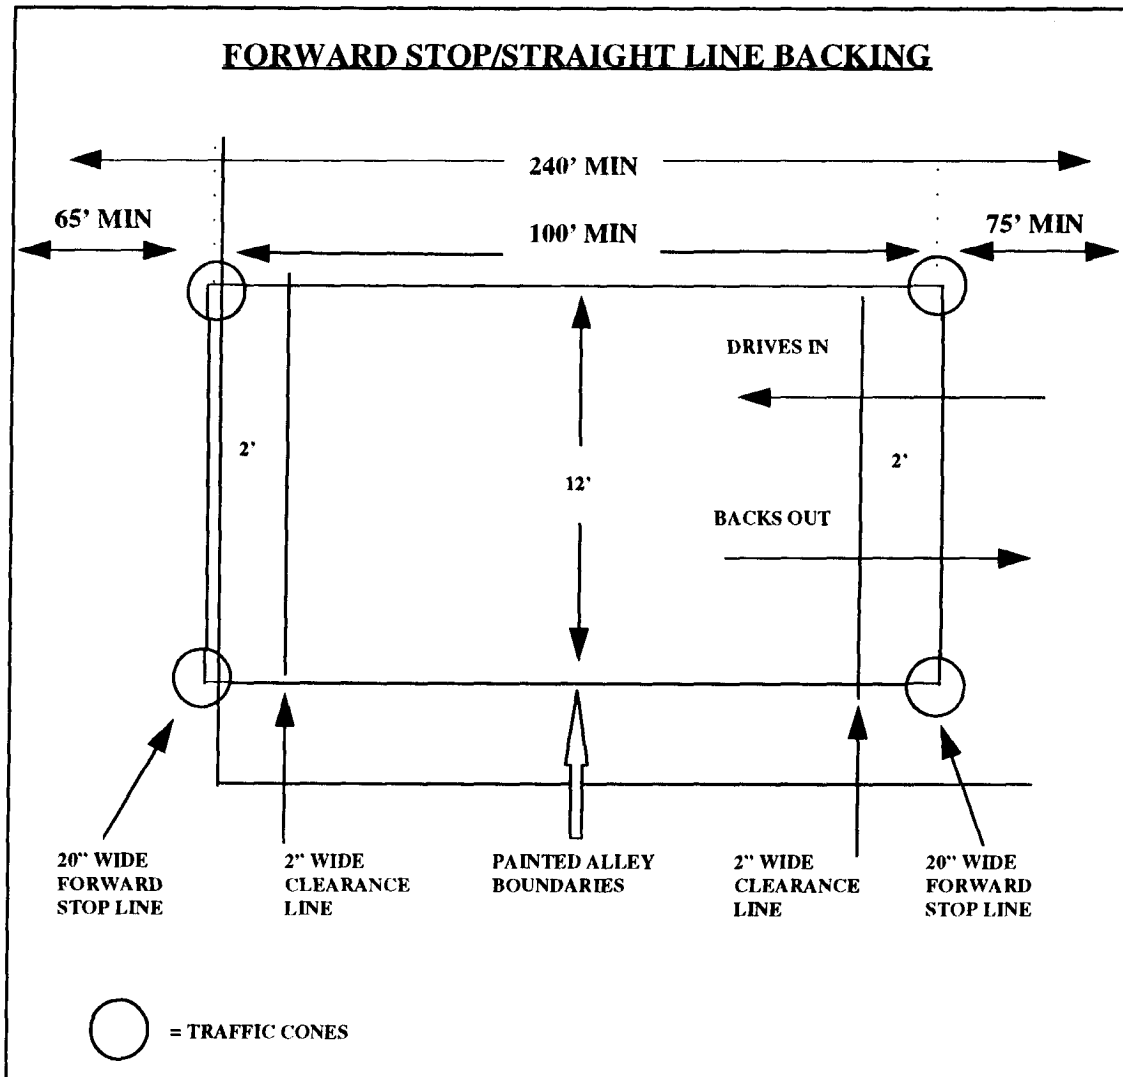
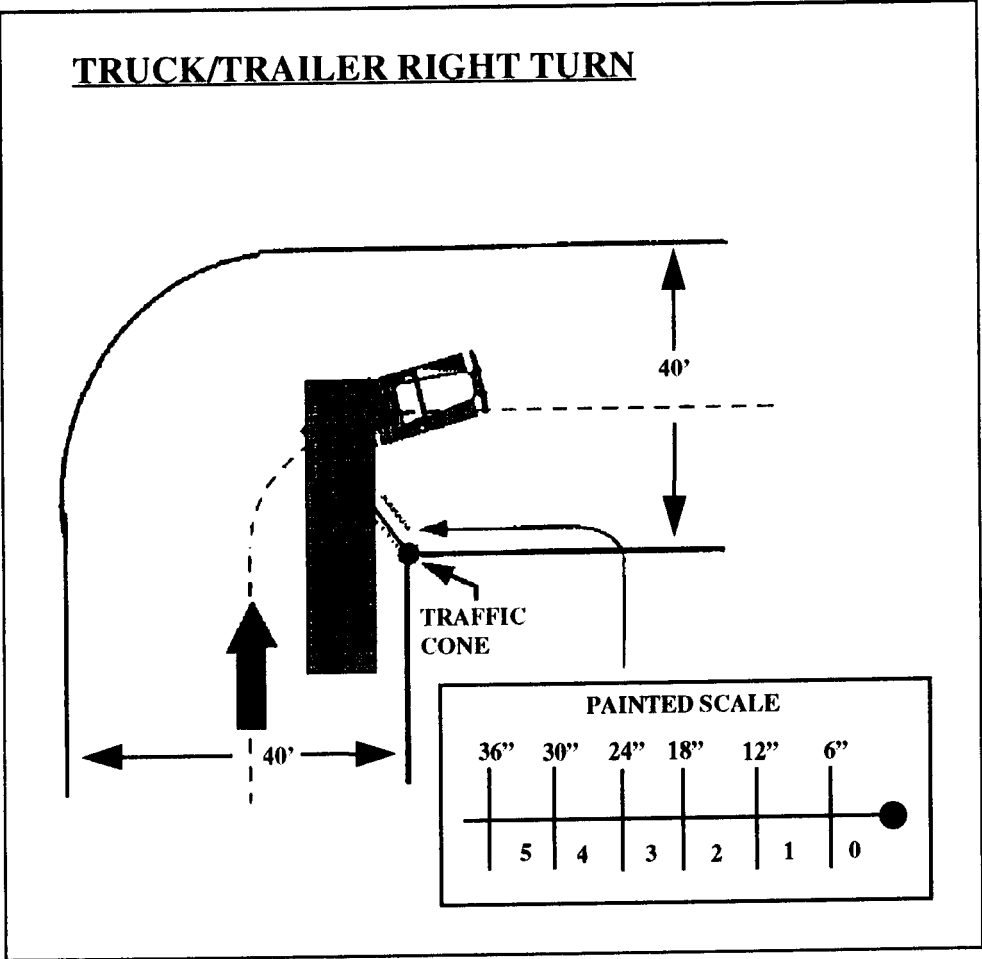
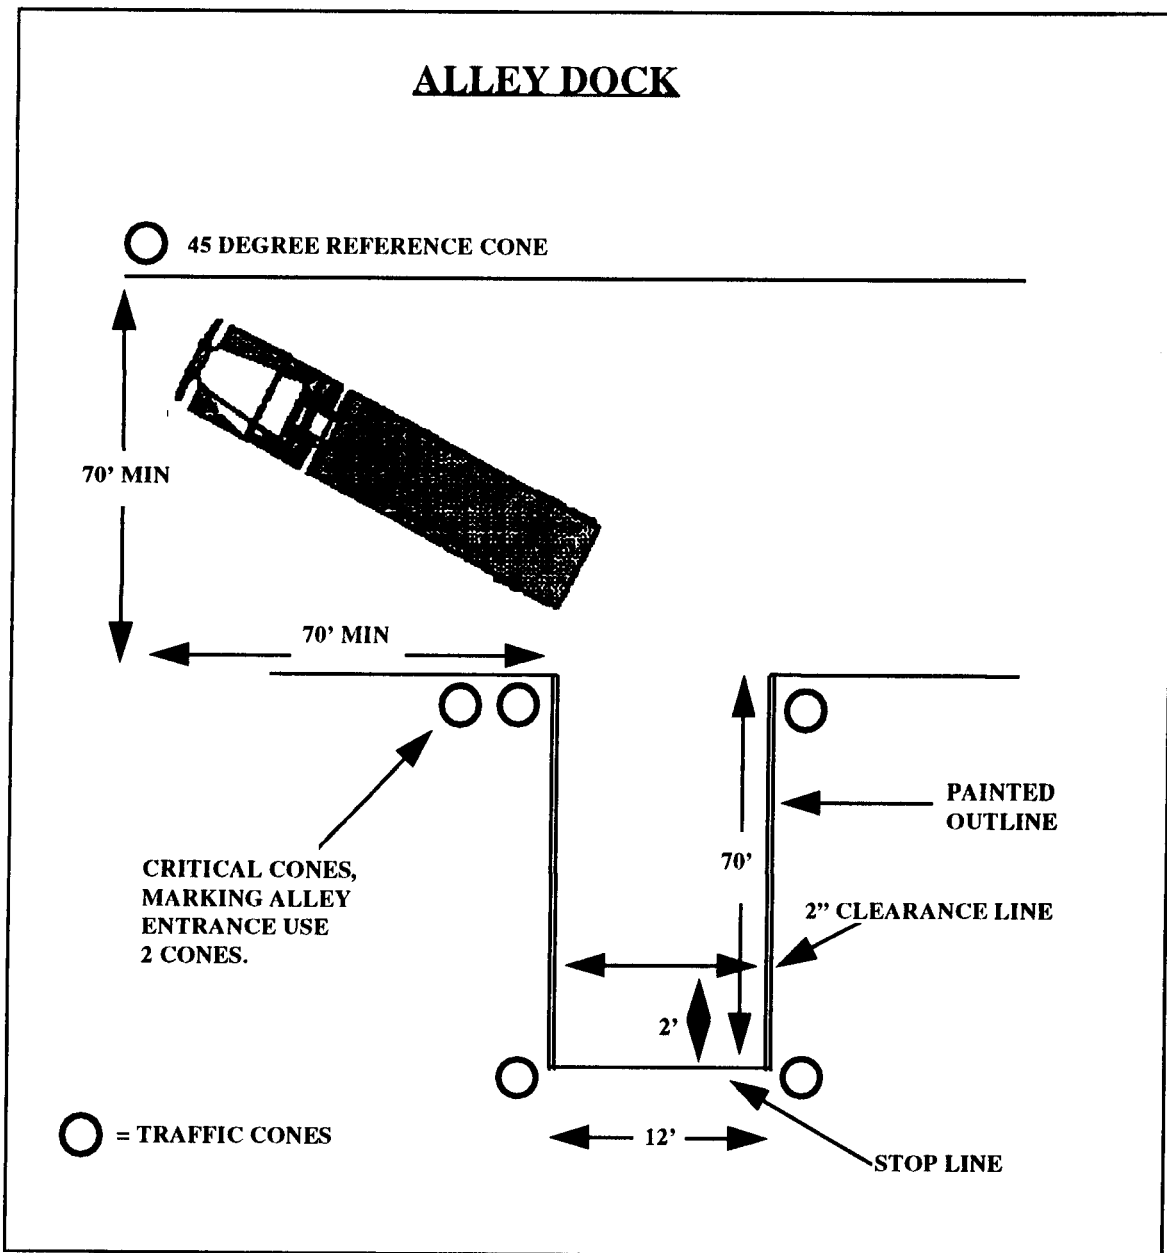

Figure 11-1. Forward stop/straight line backing
Figure 11-2. Right turn
Figure 11-3. Alley dock
**11-3. THE BASIC CONTROL SKILLS TEST.** The exercises are designed to evaluate basic skills in controlling the vehicle and judging its position in relation to other objects. It also tests basic skills essential for safe control of the vehicle. The four events that make up the basic control skills test are forward stop, straight line backing (Figure 11-1, page 11-2), right turn (Figure 11-2, page 11-3), and the alley dock (Figure 11-3, page 11-4). Both the forward stop and straight line backing are depicted in the same figure. They may be setup together or at different locations. This may depend on the amount of maneuvering room you have for testing. Even though the forward stop and straight line backing are depicted together, they are scored as separate events. The description for the events are as follows:
a. **Forward Stop.** Begin this event with the vehicle outside the exercise boundary. Drive forward between two rows of cones or lines. Bring your vehicle to a complete stop with the front bumper between the end exercise boundary lines or set of cones. You may stop only once. Do not stop beyond the outer boundary marker (see Figure 11-1).
b. **Straight Line Backing.** Begin this event with the vehicle outside the exercise boundary. Back your vehicle in a straight line between two rows of cones or lines without touching or crossing over the exercise boundaries. Stop the vehicle when your front bumper is between the two cones or lines at the end. Do not stop beyond the outer line or cones (see Figure 11-1).
c. **Right Turn.** Drive forward and make a right turn around a cone. Drive the vehicle as close to the cone as possible without hitting it. Keep your vehicle inside the left and right exercise boundary lines or cones (see Figure 11-2).
boundary lines or cones at all times. Sight-side back your vehicle into the alley, bringing it as close as possible to the rear of the alley without going beyond the end line or row of cones (see Figure 11-3).